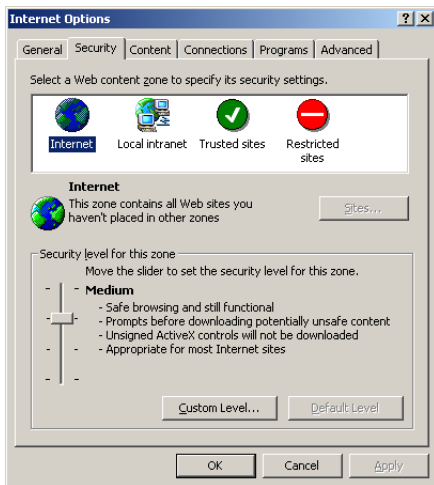

Figure 4-3 Default Internet Security Options
4. Select the Security tab on the Internet Options window (see Figure 4-3).